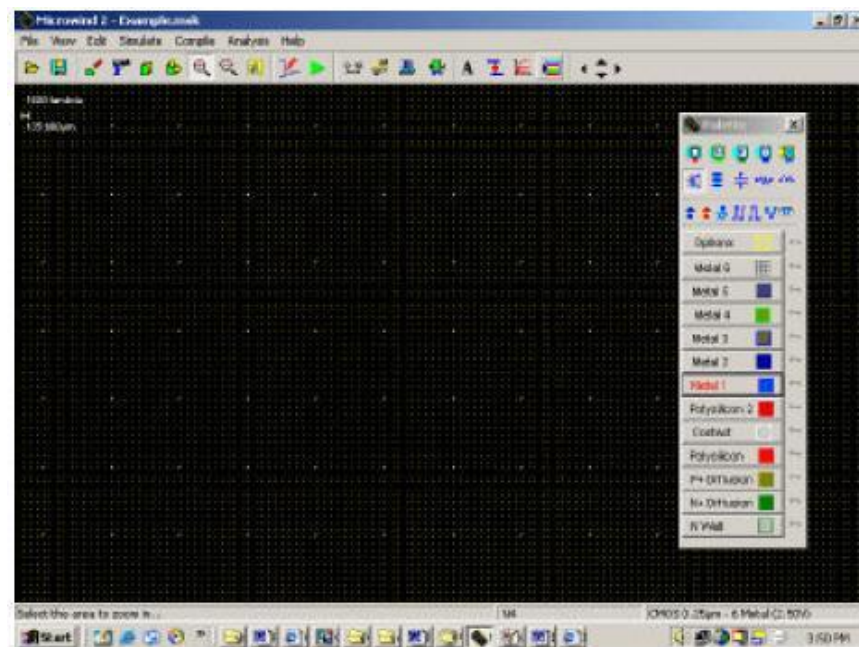

Figure 7: Palette window in Microwind Editor
1. Click on the “show palette” window. This is shown in figure7